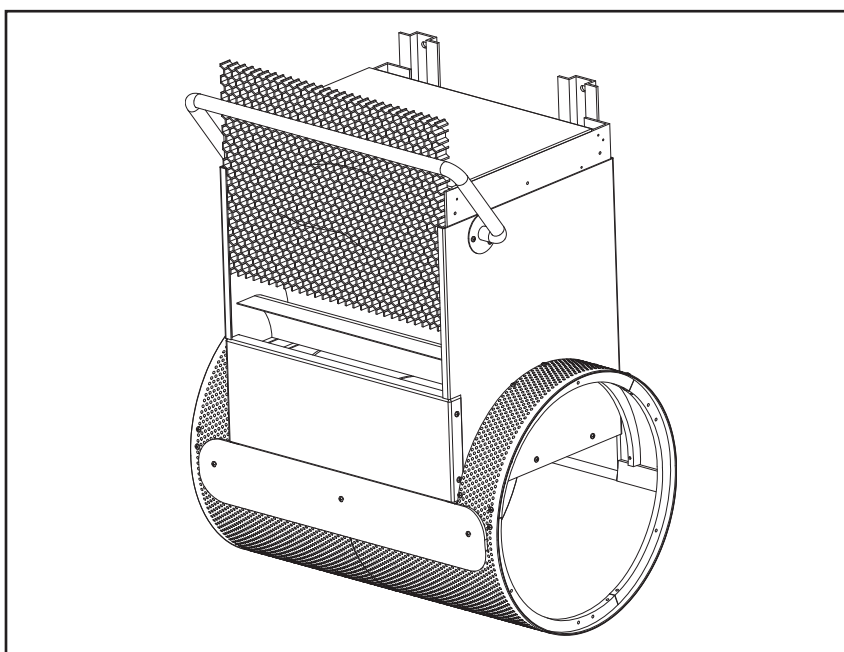

Fig. 6.10
6.12 Slide the vertical water-conditioning grill back down into the housing (Fig 6.10).